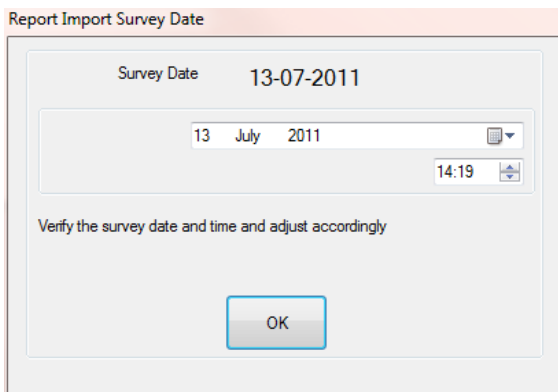

Figure 3.20 Survey Date confirmation screen
- FSM will ask you to confirm the date in which the survey took place (see Figure 3.20). This information will be used to create the survey folder. Press **OK** to continue.